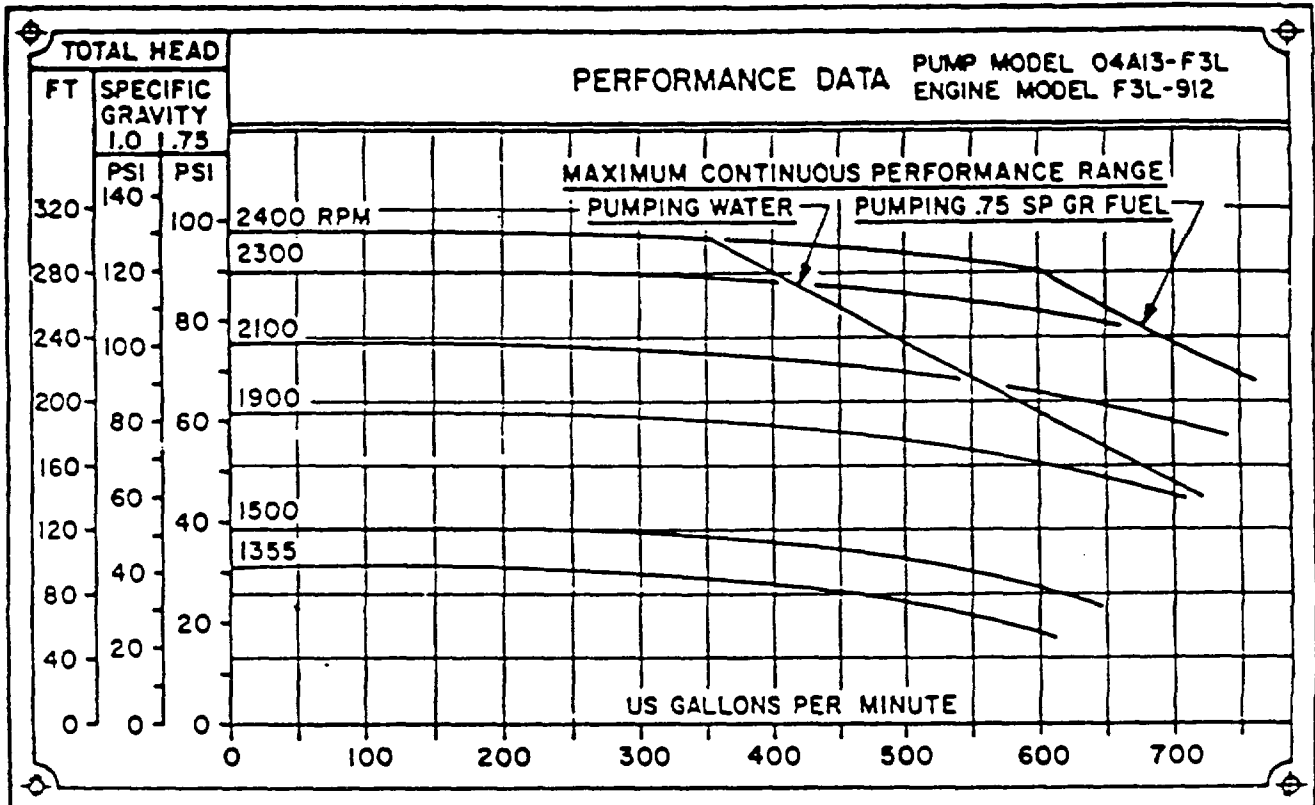
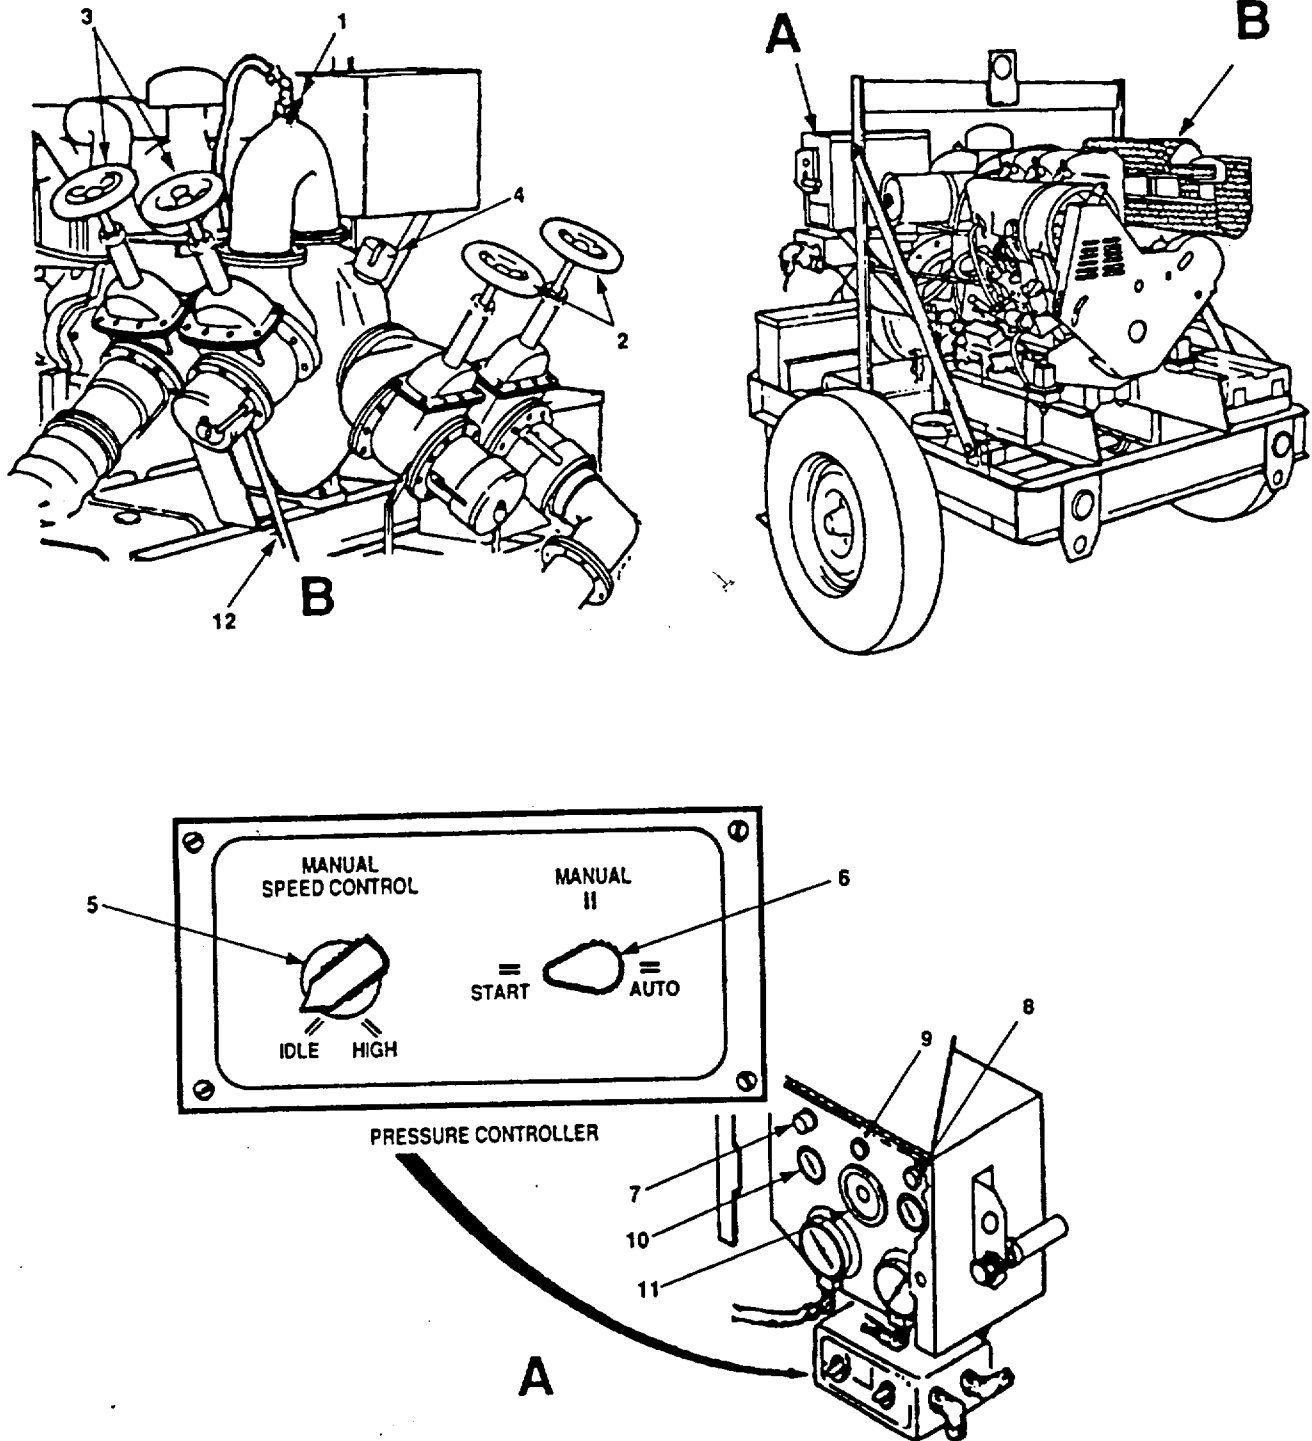

Figure 2-6. Performance Chart.
Figure 2-7. Operation of Regulated Models.
- p. Adjust pump speed to meet mission requirements. Refer to Figure 2-6.
a. Open vent valve (1, figure 2-7) and ensure all suction valves (2) and discharge valves (3) are closed.
(2) Check pump fuel level by carefully opening camlock levers on priming port cap (4, figure 2-7) and raising port cap slightly to see if fuel is discharged from priming port. If fuel is discharged from priming port, quickly install port cap and place camlock levers in locked position. If fuel is not discharged, remove port cap, add clean liquid of the type to be pumped, until the fuel level reaches the top of the priming port.
- c. Install priming port cap (4, figure 2-7) and place camlock levers in locked position.
- d. Place pressure controller manual speed control (5, figure 2-7) to 'IDLE' position.
- e. Place pressure controller mode selector (6, figure 2-7) to 'START' position.
- (1) Turn the two fasteners on the Control Panel counterclockwise until the fasteners release.
- (2) Raise Control Panel cover until retaining holes in two brackets mounted on top of Control Panel align with retaining hole in bracket mounted on cover.
- (3) Press in on end of quick release pin and insert the quick release pin through holes in brackets at top of Control Panel and Cover.
- g. Pull out EMERGENCY STOP switch (7, figure 2-7) and turn mode switch (6, figure 2-7) to the START position.
- p. Adjust manual speed control (5) to meet mission requirements (figure 2-6) and then place mode selector (6, figure 2-7) to 'AUTO'.
- a. Place pressure controller mode selector switch (6, figure 2-7) to "MANUAL"
- b. Place pressure controller manual speed control (5) to "IDLE" position and idle for two minutes.
- c. Close discharge valve (3) and suction valve (2).
- d. Push in EMERGENCY STOP switch (7).
- (1) Press in on end of quick release pin and remove quick release pin from brackets at top of Control Panel and Cover.
- (2) Lower Control Panel cover.
- (3) Turn the two fasteners on the Control Panel clockwise until the fasteners engage.